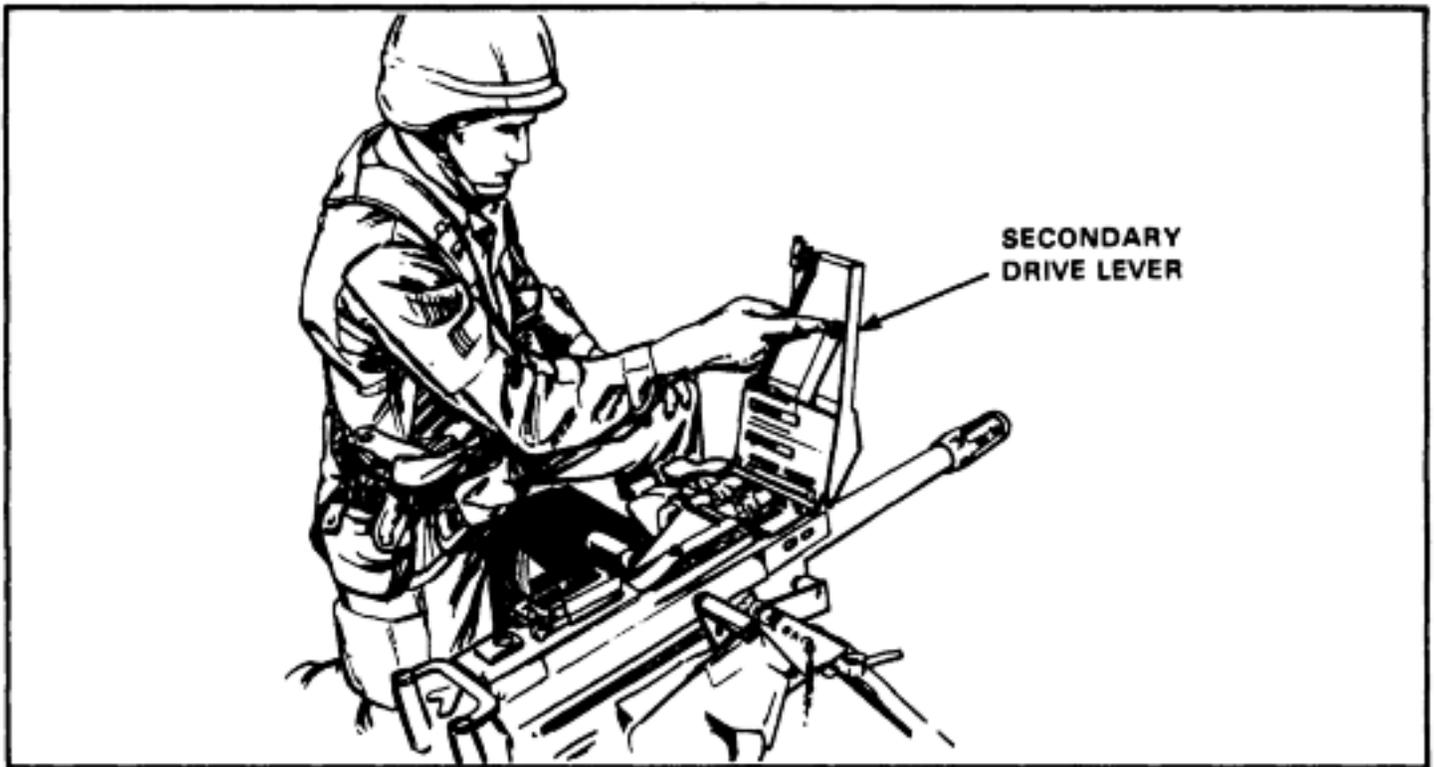

Figure 2-23. Positioning of feed slide assembly.
(2) Push the round across the secondary feed pawl. To move the feed slide assembly to the left (Figure 2-23), push the secondary drive lever to the right. Close the cover.